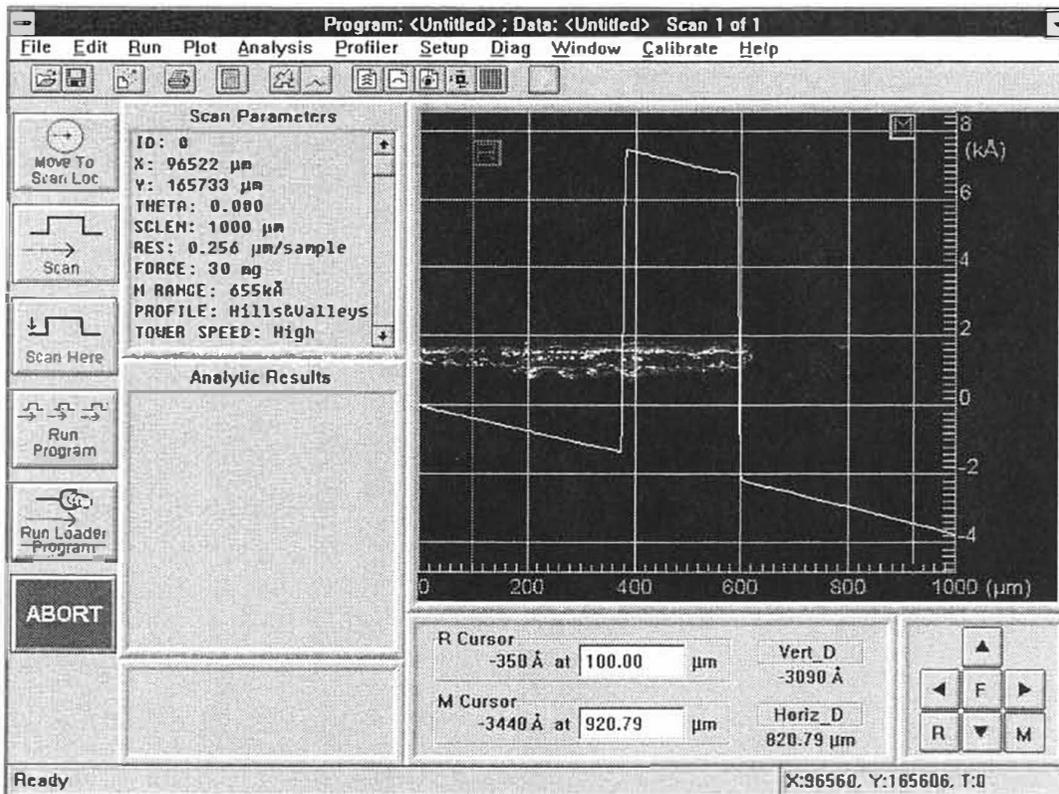

Figure 4-3. Calibration Standard Profile
3. Once the scan is complete, the stylus will lift off the surface and the stage will return to the X-Y location where the scan originated. The profile is then automatically replotted and rescaled. The image displayed on the monitor should resemble Figure 4-3.